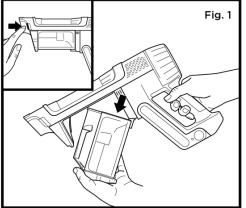

Fig. 1
1. To remove the dust cup on your IP3000 hand vacuum, press the release button and slide the dust cup off the hand vac (Fig.1).